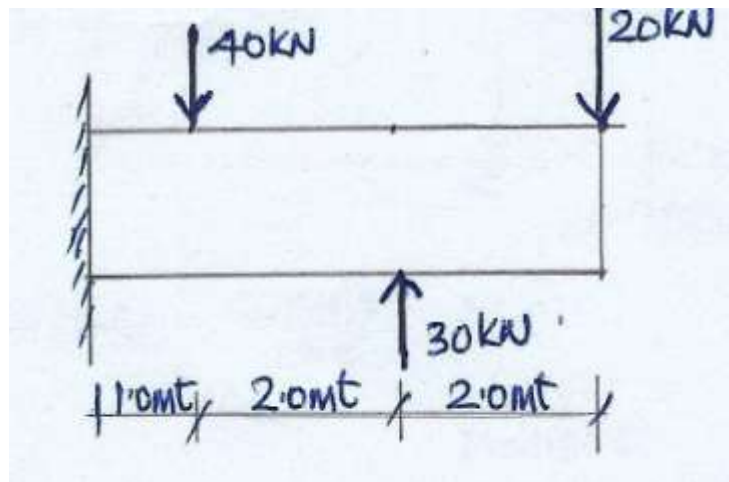

Fig. 4b
- (b) A Rigid bar AB is subjected to a system of parallel force, reduce the system to an equivalent (Refer fig. 4b) 06